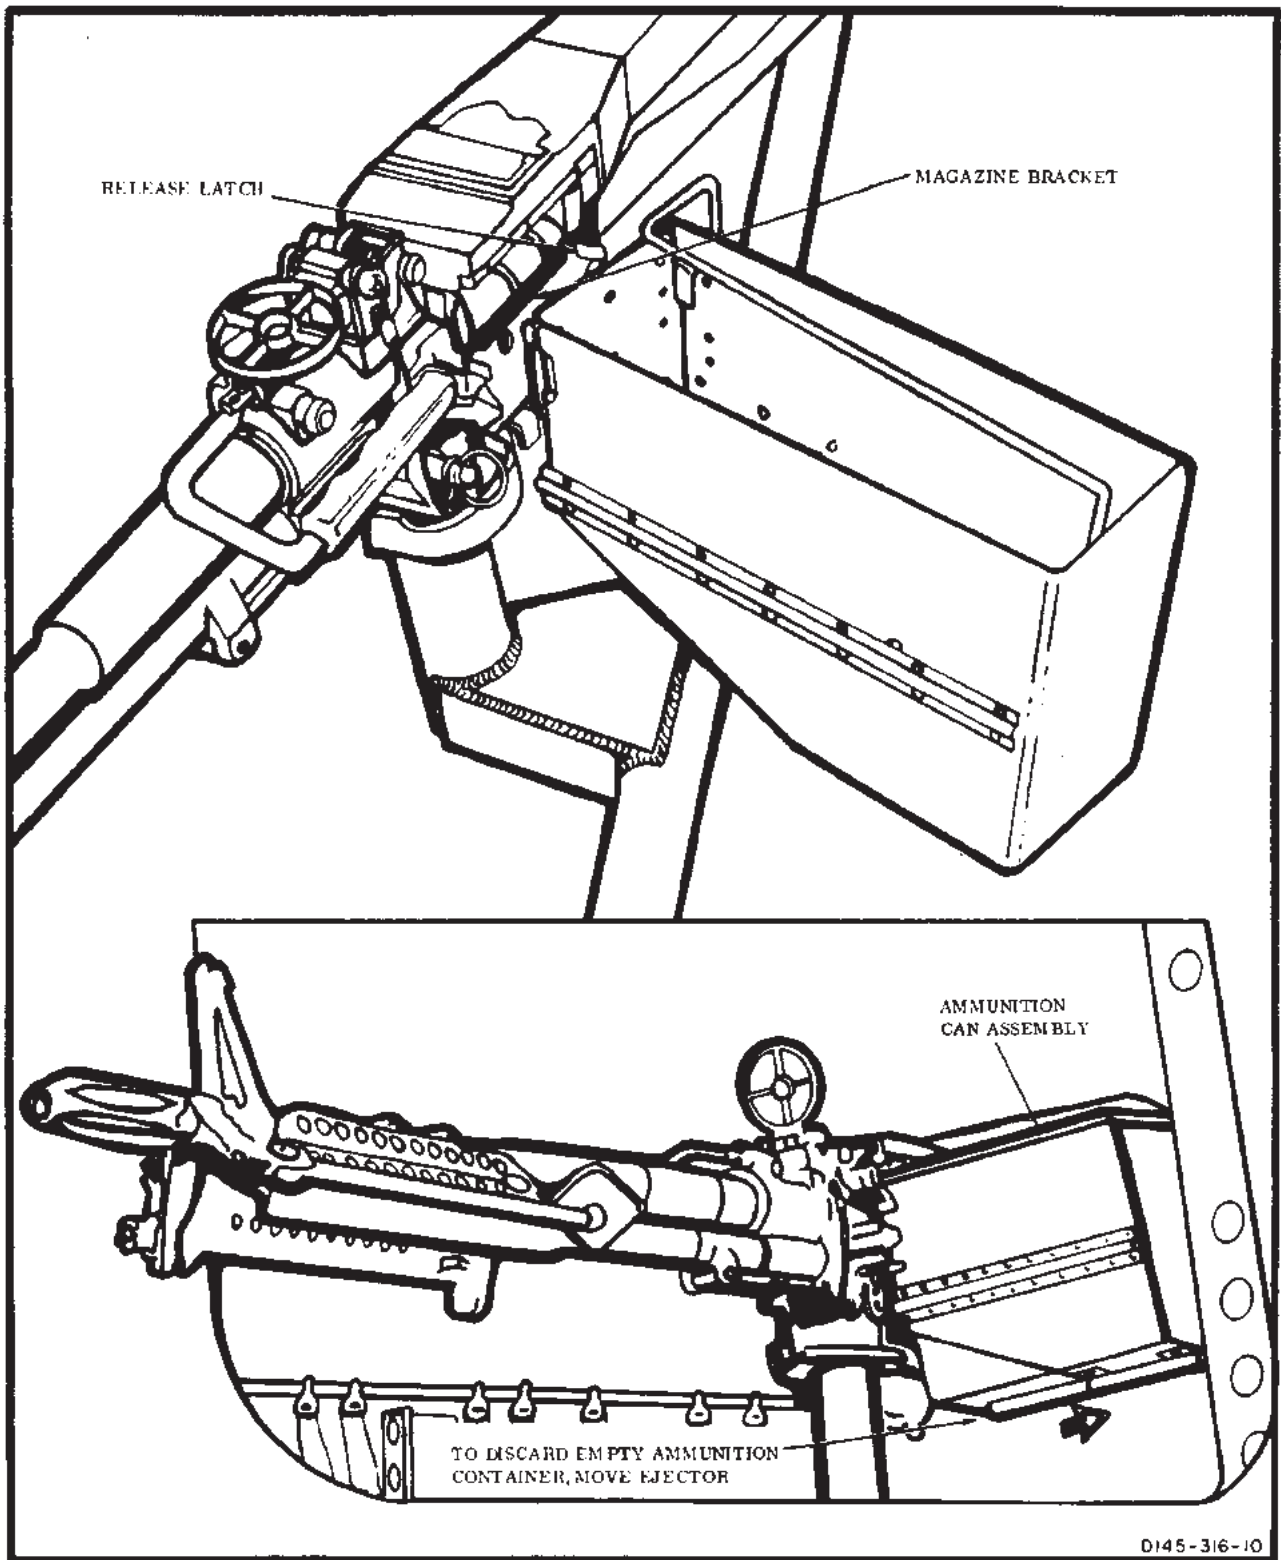

Figure 4-2-8. Ammunition Can — Installed
- Ammunition can (fig. 4-2-8) — Installed on machine gun and loaded.
- Safety — Push button to safe (S) position, aim at clear area, and try to fire the unloaded machine gun.